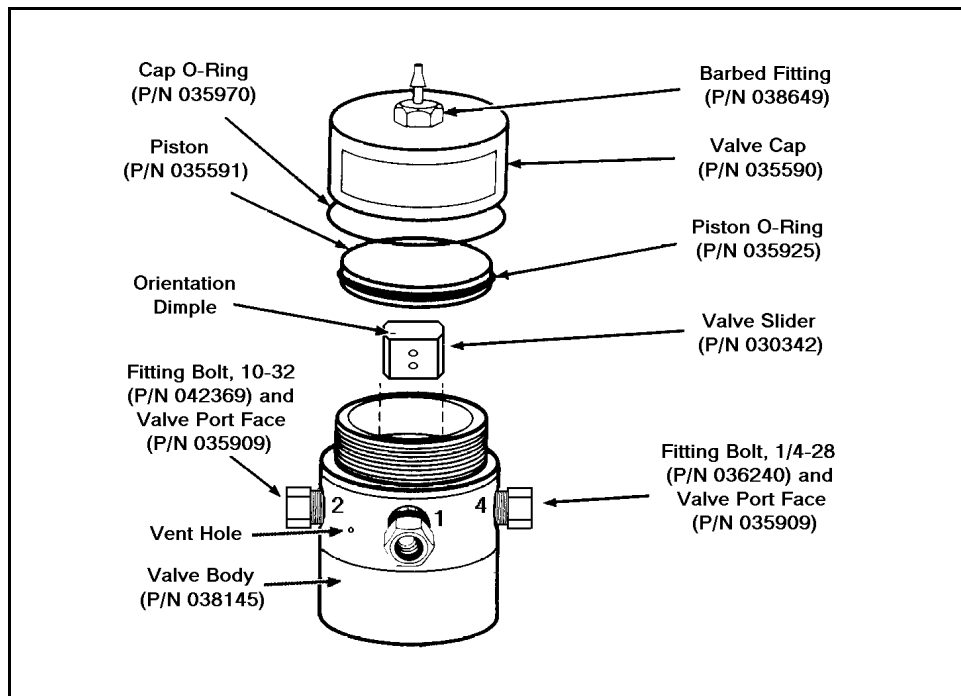

Figure 5-3. Bleed Valve Assembly Detail
3. If the leak persists after replacing the fitting, ensure that the valve pressure bolts (see Figure 5-3) are evenly tight (80 to 100 in-oz). See Section 5.4 if tightening the pressure bolts does not stop the leak.
6. Make sure that the barbed fittings on each end of the valve (see Figure 5-3) are tight. If they are not, carefully tighten them with an open end wrench. **Do not overtighten; overtightening may damage the threads on the valve cap or barb.**
4. Disconnect the sample tube from port 1 of the bleed valve (see Figure 5-3).
5. Press the disconnected air line against the vent hole below port 1 (see Figure 5-3). If necessary, activate the **Bleed Off/On** switch to direct a blast of air pressure against the slider. The air pressure thus applied will cause the piston to pop out of the valve body.
12. Push the slider back into the valve body. Orient the dimple on the top of the slider between ports 1 and 2 of the valve body (see Figure 5-3). The valve operates properly only if the slider is correctly oriented in the valve body. The groove around the valve body indicates the top of the valve body. The small vent hole is under port 1. The ports are numbered clockwise from the top around the valve body. The slider connects the ports as follows:
3. Disconnect the tube fitting from the suspect pressure bolt (see Figure 5-3), then unscrew the pressure bolt from the valve body.
7. Activate the **Bleed On/Off** switch. Air will escape through the vent hole below port #1 (see Figure 5-3) when the leaking end is pressurized.